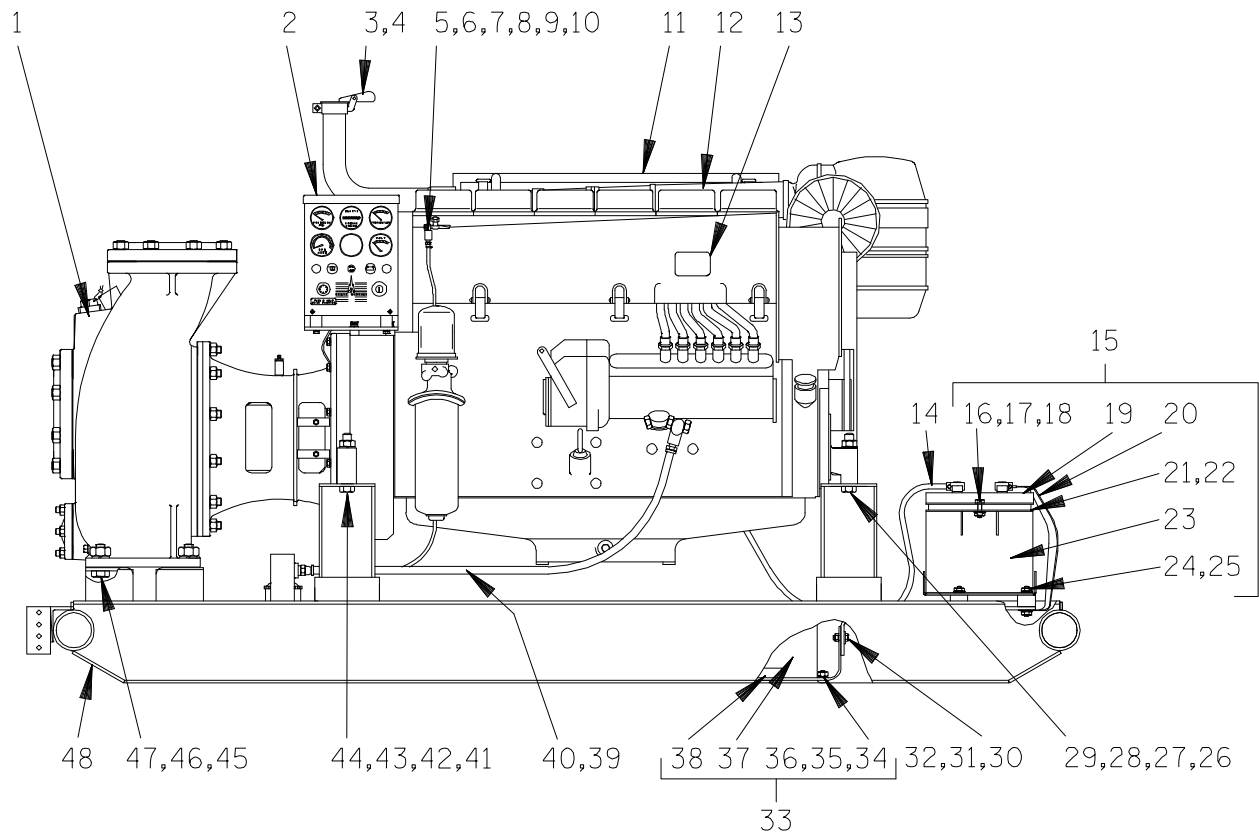

Figure 1. Pump Model 06B3-F6L
This pump requires little service due to its rugged, minimum-maintenance design. However, if it becomes necessary to inspect or replace the wearing parts, follow these instructions which are keyed to the sectional views (see Figures 1 and 2) and the accompanying parts lists.
Remove the suction and discharge lines. Remove the hardware (45, 46, and 47, Figure 1) securing the casing to the base (48). Remove the hardware (32) and use a suitable hoist and sling to separate the pump casing and gasket (33) from the seal plate (11) and intermediate (17).